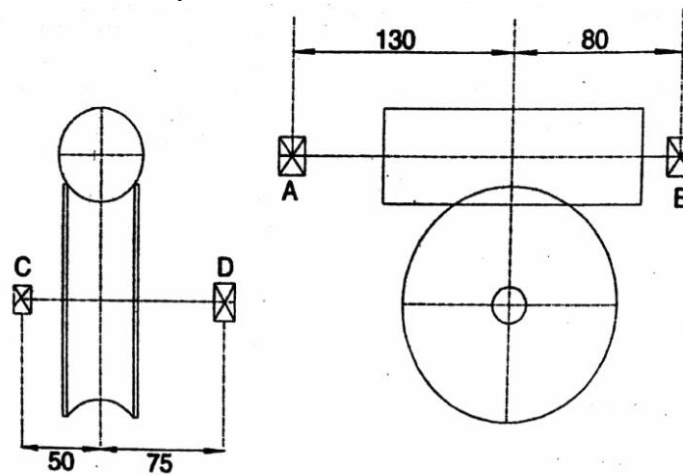

fig. 1.1
- b) As shown in fig. 1.1 the arrangement of a worm and gear drive. Calculate the bearing reactions for the set, from the following data: 10